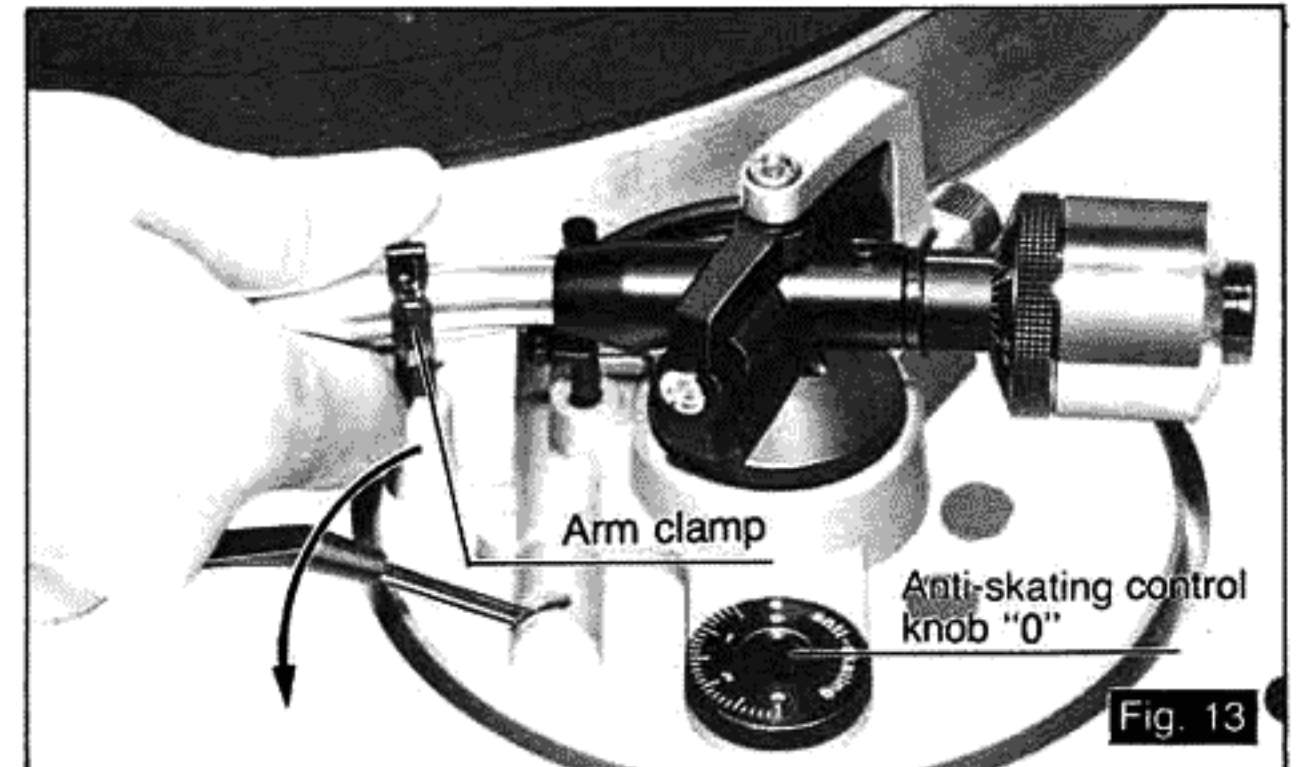
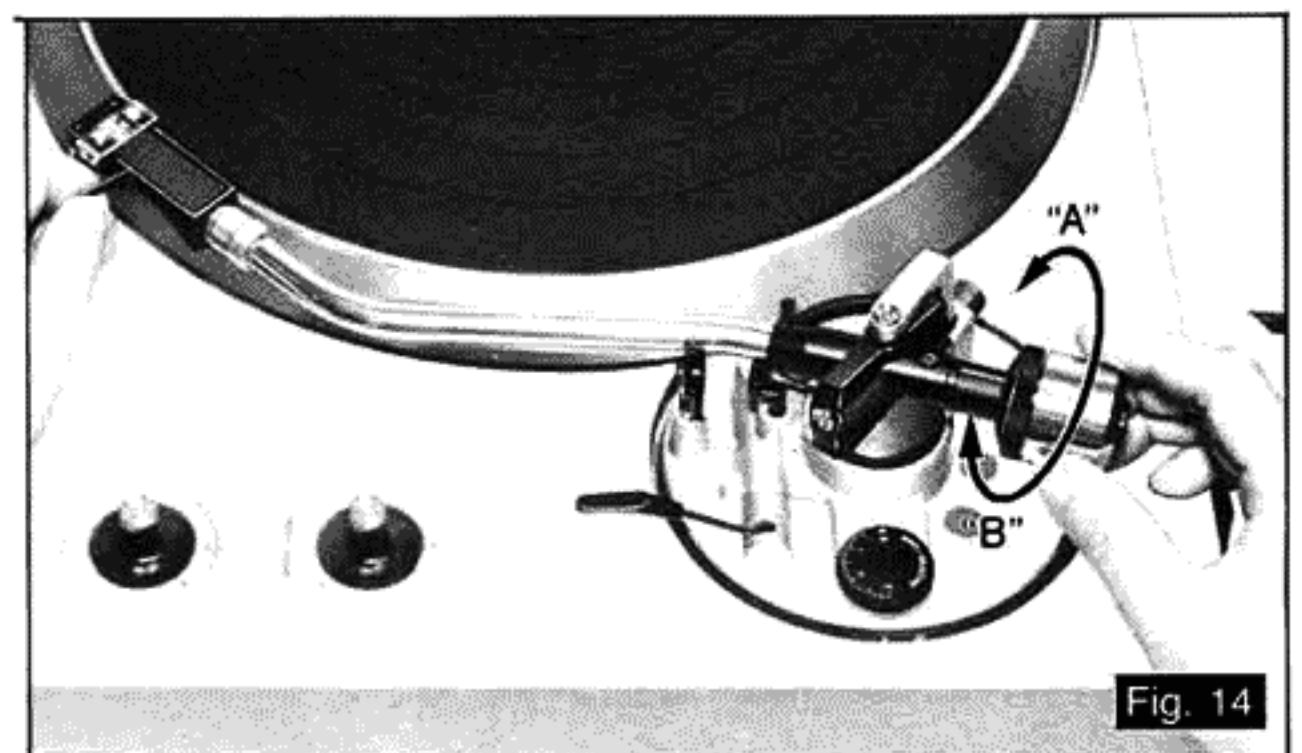

Fig. 13
Fig. 14
- Make sure that the cueing lever is in the lowered position as shown in Fig. 13.
- Make sure that the anti-skating control knob is at "0" position. (See Fig. 13).
2. Release the arm clamp (Fig. 13) and lift the tonearm from the arm rest to free it. (See Fig. 14).
3. Turn the entire balance weight clockwise (indicated by the arrow "A") or counterclockwise (indicated by the arrow "B") until the tonearm is approximately balanced horizontally. (Floats freely.) (See Figs. 14 and 15).
- If the tonearm pulls toward the arm rest when the tonearm is held in a free state as in Fig. 14, rotate the turntable platter clockwise about 10 times. This will disengage the automatic mechanism from the tonearm gear, which in rare cases may have moved out of its normal position during transportation.